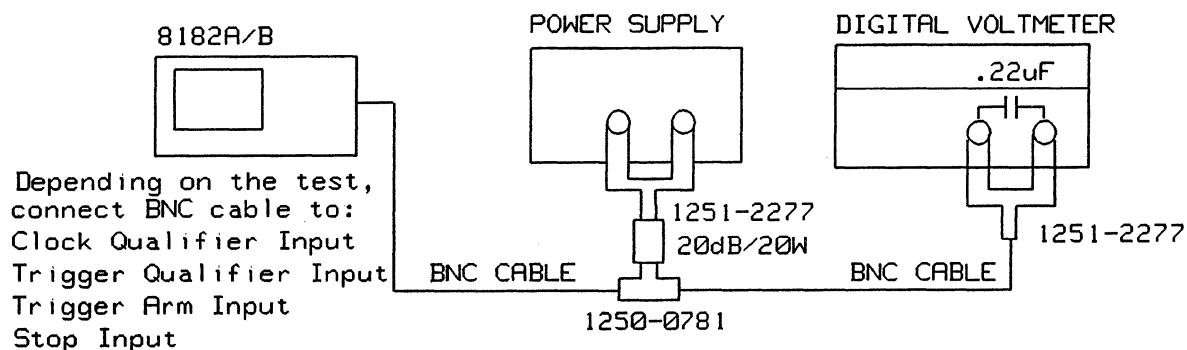

Figure 7-9. Test Setup for the Qualifier Threshold and Impedance Test
5. Connect the equipment as shown in Figure 7-9 and press RUN.
6. Connect the equipment as shown in Figure 7-9 and press RUN.